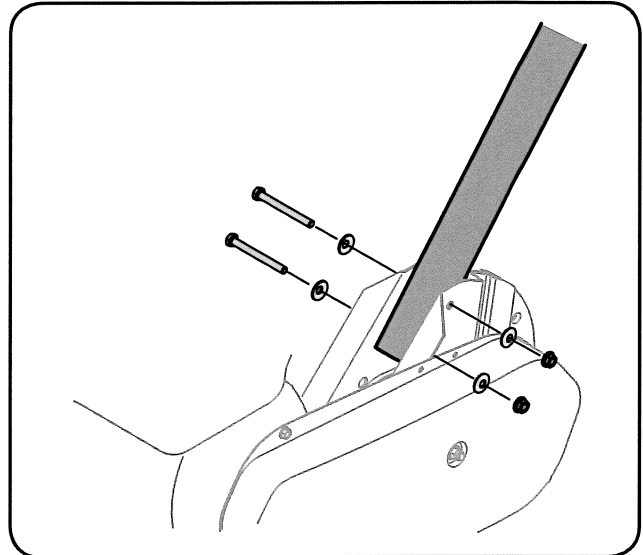

Figure 3-5
1. Remove the bolts, washers and nuts from the chain case bracket. See Figure 3-5.
2. Place the handle into position and secure with the previously removed hardware. See Figure 3-5.